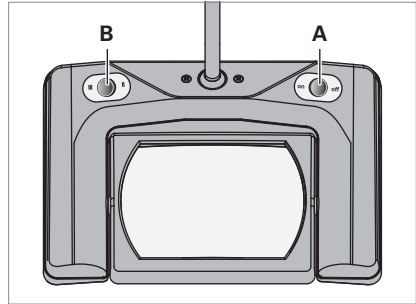

Fig. 6: Rocker switch.
- ▶ To switch the luminaire on or off, press the rocker switch **A**, see Fig. 6.
- ▶ To switch the light segment **A** on or off, press the rocker switch **B**, see Fig. 6.